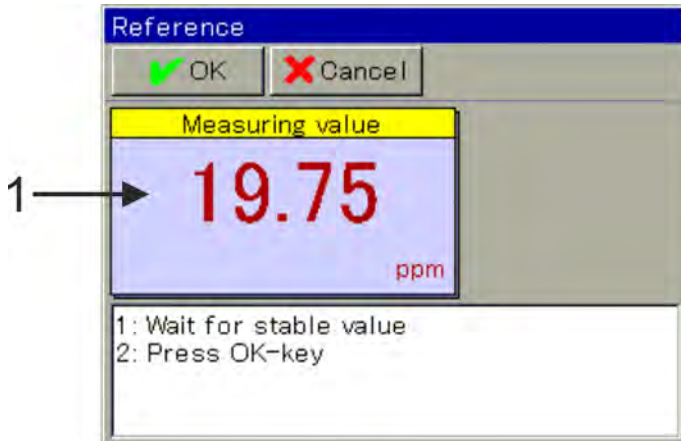

Fig. 81: Reading based on previous calibration values (1)
2. Clean the sensor and dip it in the test solution. Wait for a stable reading display, and confirm the measurement result with "OK" (See Fig. 81 .)